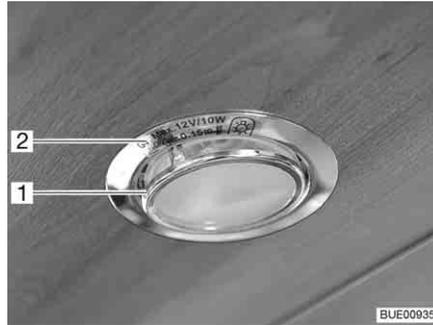

Fig. 284 Recessed halogen light (flat)
The recessed halogen light (Fig. 284,2) is installed flush with the panel.
- Use a suitable tool (e.g. a screwdriver) to lever out the internal cover ring with glass disk (Fig. 284,1) from the housing.